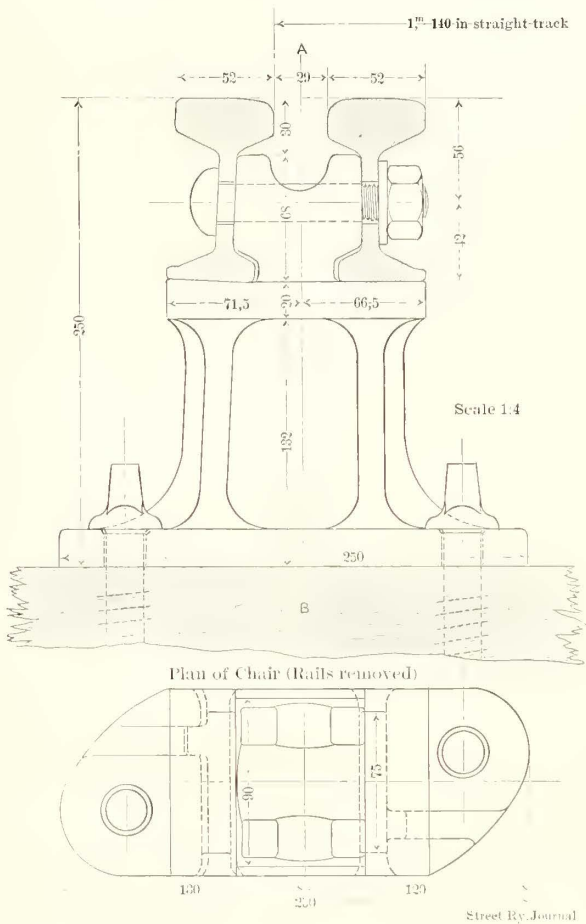

FIG. 3.—SECTION OF MARSILLON RAIL AND CHAIR
2. Double or "Marsillon" rails as they are called. Fig. 3 shows views of this rail with its cast-iron chair and the